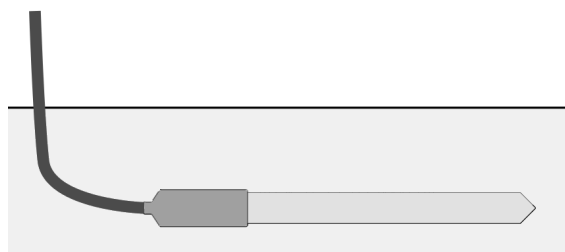

Figure 2. Soil moisture probe installed in soil.
2. Place the probe into the trench horizontally with the flat size perpendicular to the soil surface (Figure 2).